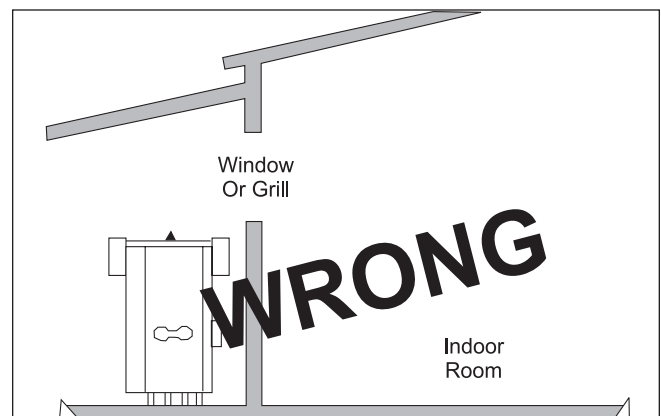

Figure 4. Incorrect Outdoor Installation.
3. Never install the boiler under any kind of roof overhang. Do not locate the unit below or adjacent to any doors, windows, louvers, grills, etc. which communicate in any way with an inhabited area of a building. Even though such communication might be through another structure such as a garage or utility room (see Figure 4).